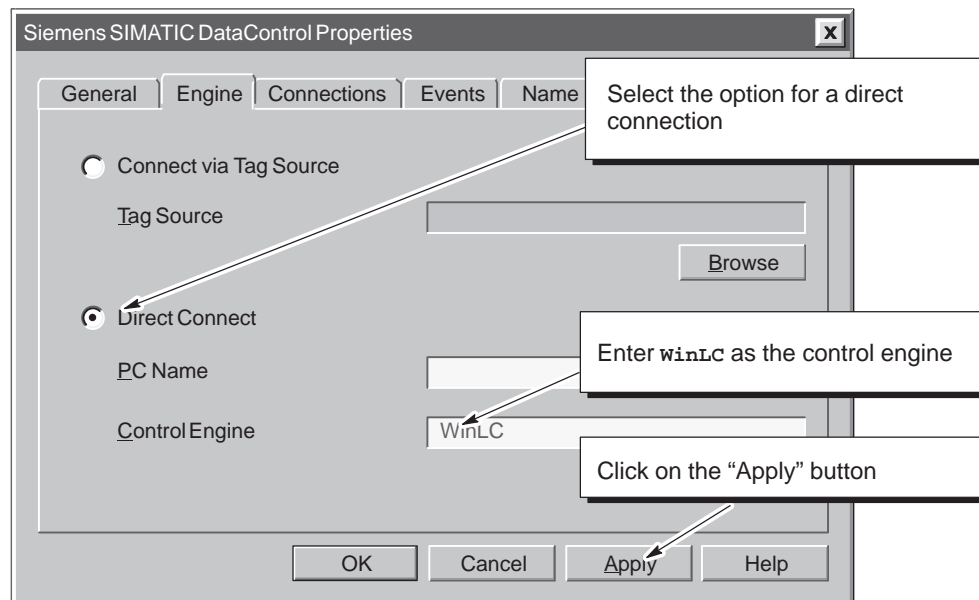

Figure 3-16 Connecting the Data Control to WinLC
1. In the “Properties” dialog box for the Data control, select (click on) the “Engine” tab to display the options for selecting the control engine. See Figure 3-16.